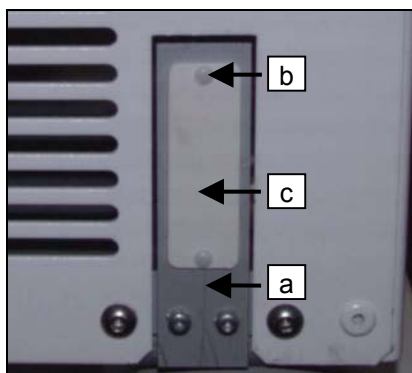

Fig. 27
- Remove on the back wall the holder plate (Fig. 27, a) for the optical interface board.
- Press out both plastic body-bound rivets (Fig. 27, b) from the holder plate and remove the plastic cover (Fig. 27, c).